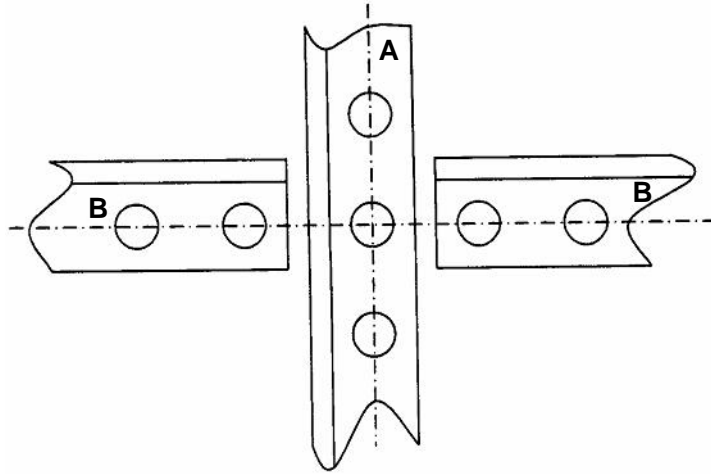

Figure 6
- 6.2 Draw and design a gusset plate for the given section of a steel construction as indicated by **Figure 6** below. Angle iron marked **A** consists of 50 x 50 x 5 mm Ls with a back mark of 28 mm and pitches of 3d. The rivets used on angle **A** are 12 mm with a landing of 1,5d. Angle irons **B** consist of 30 x 30 x 4 mm Ls with back marks of 17 mm and pitches of 3d. The rivets used are 12 mm and the landing used is 1,5d. (16)